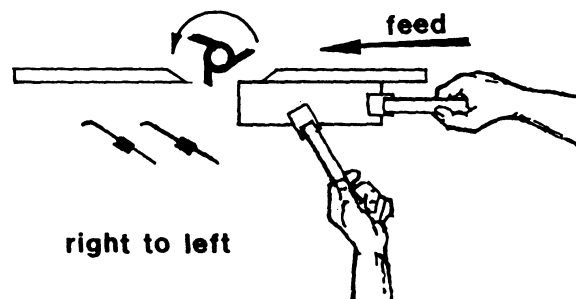

Figure 20
*Counterclockwise Setup* – With the cutter installed as shown in Figure 20, feed the workpiece from *right to left*.